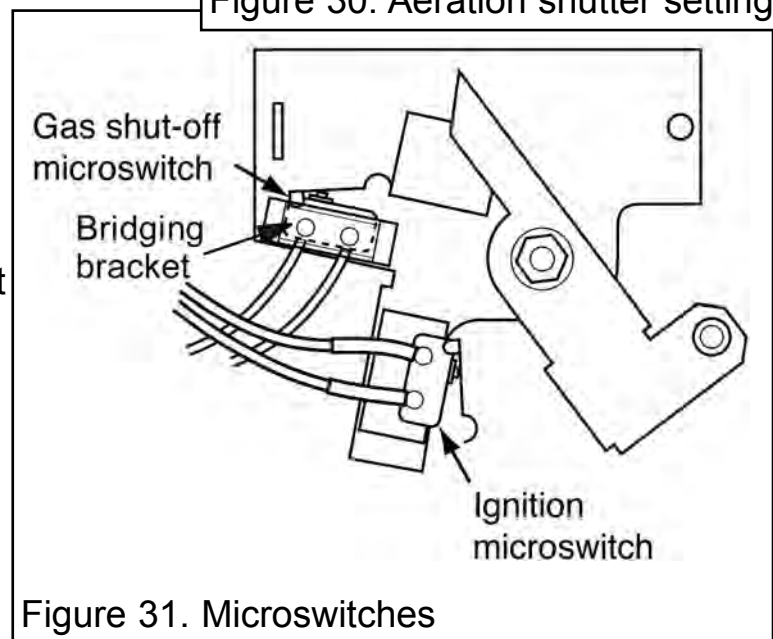

Figure 31. Microswitches
(See figures 31 & 32).
2. Disconnect the leads from the ignition microswitch (The lower of the two microswitches - See figure 31).
3. Detach the bridging bracket, microswitch assembly by removing two screws (See figure 31).